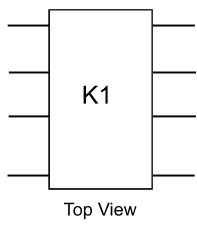

Figure 1
1. Place the circuit board on a flat surface to prevent flexing and using the component placement guide and the parts list, install all surface mount components on PCB. Be sure of the polarity of C5 and C7. This should leave IC1, IC2, R3, R6 and K1 to install. Keeping the PCB as flat as possible during assembly is important. Flexing the PCB during or after assembly may fracture and destroy surface mounted components. Now install IC2, R3 and K1 utilizing Figures 1, 2, and 3 for proper pin prepping of K1, IC1, and R3. Be sure that all leads are flat as possible to the circuit board. After assembly is complete, inspect the bottom side of the PCB for solder that may have leaked through the via holes and "puddled". Remove the excess with solder wick. It is important for the board to be mounted flat in the enclosure.